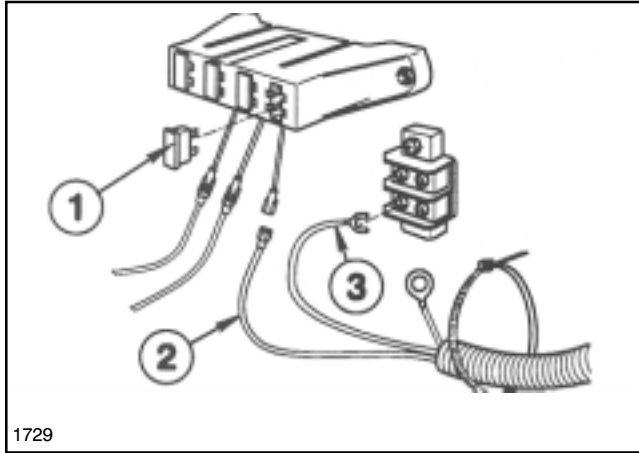

FIG. 13
9. Route Harness to Fuse Block under Operator Seat. Connect power and ground wires as shown in FIG. 13.